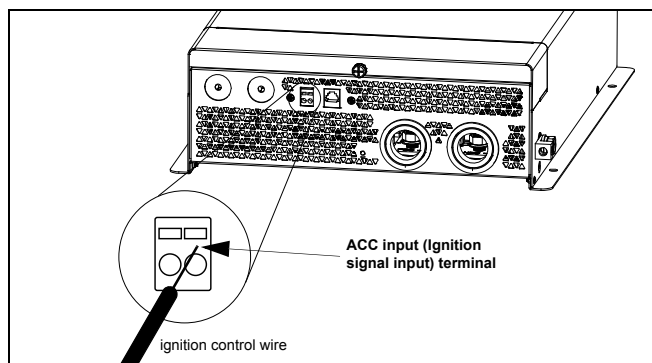

Figure 6 Ignition Signal (ACC) Input Terminal
4. Locate the ACC input (ignition signal input) terminal. See Figure 6.